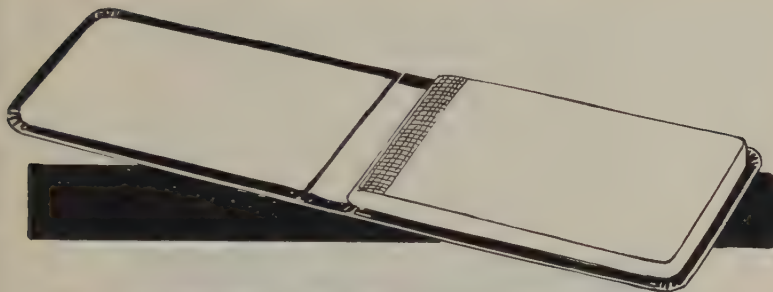

FIG. 244—BOOK WITH ONE END PAPER GLUED-OFF, POSITIONED ON COVER
15. Glue-off one entire side of book, being careful to keep edges of book clean, and to coat end lining and muslin joint at back evenly and thoroughly, and lay book glued side down on cover, positioning it to secure proper squares. (Fig. 244.)